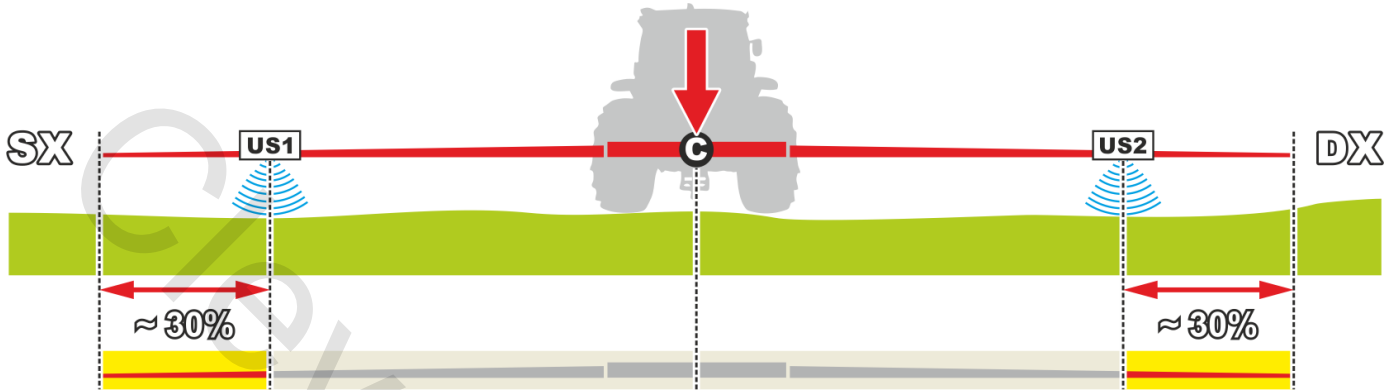

Fig. 5
- **BASIC SETUP** - with a pair of sensors **US1** + **US2** (Fig. 5).